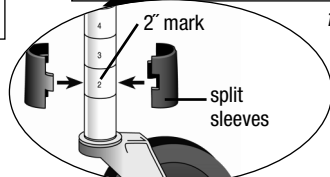

figure 2a
- a. Posts are numbered in 1" increments. Snap split sleeves onto each post at the 2" mark as shown in *figure 2a*. The thicker part of the taper goes toward the bottom. Make sure rib in split sleeve is seated into groove on post.